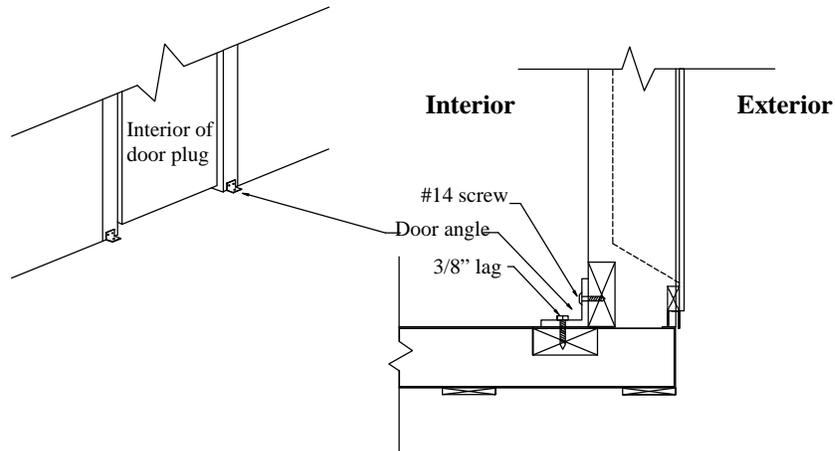

Figure 9 - Installing Door Angles
1. Align door frame with adjacent wall panels, making sure that opening is square and frame is plumb, and install door angles (see figure 9).